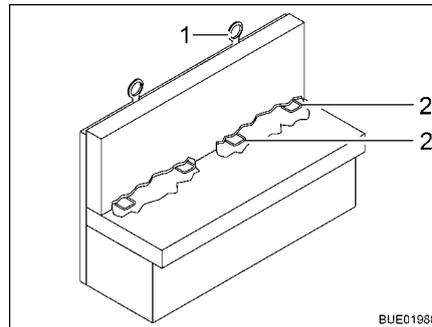

Fig. 27 ISOFIX child safety seat mounting system
If the vehicle is equipped with the ISOFIX child safety seat mounting system, the vehicle seats suitable for it are marked with the ISOFIX symbol. These vehicle seats have retaining brackets (Fig. 27,2) and another anchorage point at the top of the seat backrest (Top Tether) (Fig. 27,1). Use child restraint system suitable for ISOFIX. The child restraint systems possess connectors which are latched to the retaining brackets of the vehicle seat.
- If possible, fasten the child seat at the Top Tether (Fig. 27,1).